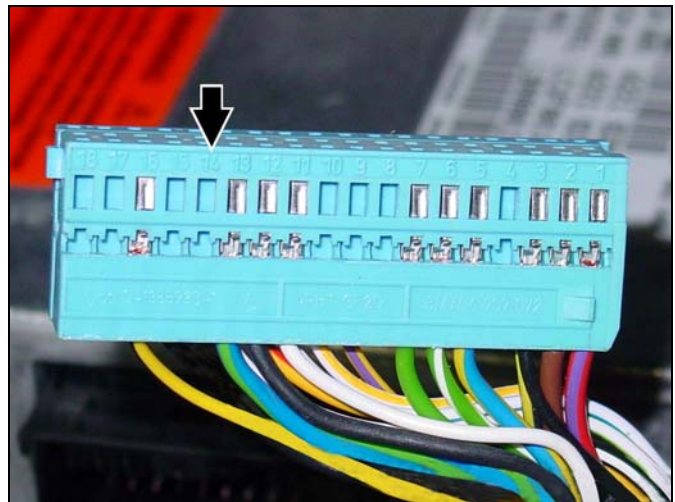

Figure 35
2. Remove the locking cover from the Tele Aid power supply connector to expose the pin housing (Figure 35).
3. If pin slot #14 is vacant (Arrow, Figure 35), proceed to step 6.